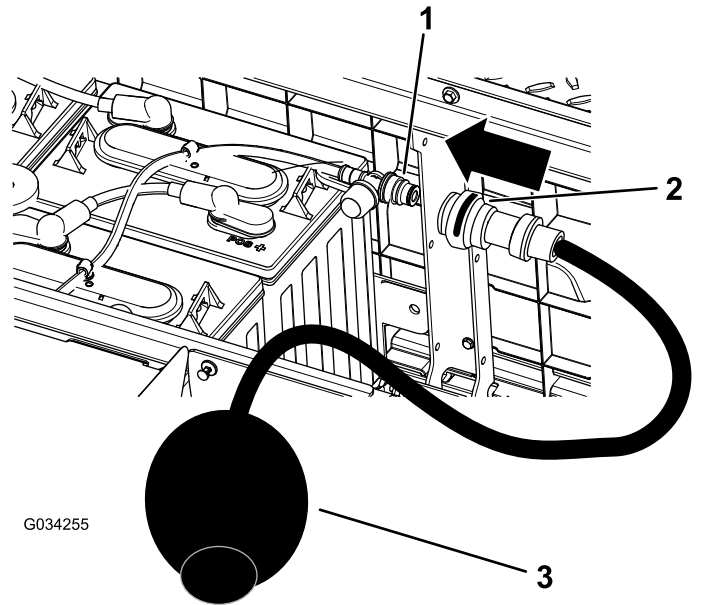

Figure 38
4. Connect your Toro water hand pump to the water-fill port (Figure 38).